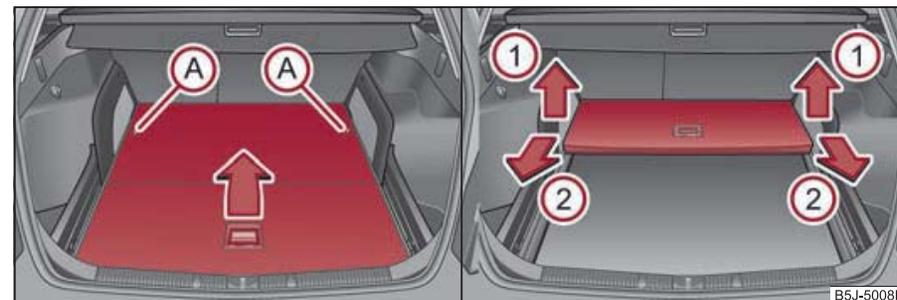

Fig. 63 Luggage compartment: Fold up variable loading floor/remove
- Unlock the variable loading floor by turning the locking bolts A by approx. 180° to the left ⇒ fig. 63.
- Lift up the variable loading floor in direction of arrow ① ⇒ fig. 63 and remove it by pulling in direction of arrow ② ⇒ fig. 63.